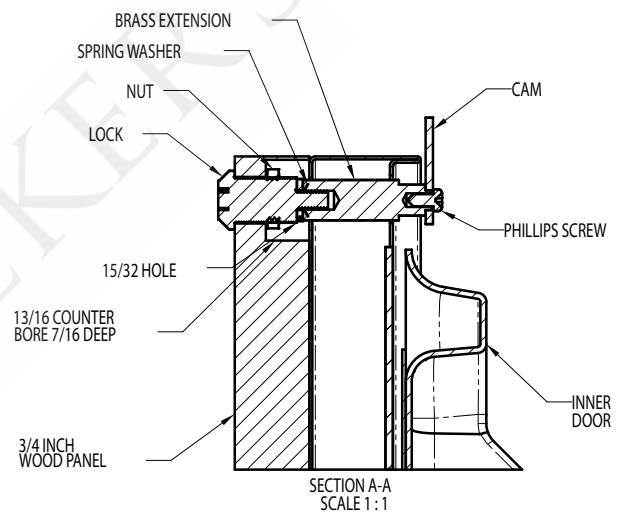

Figure 9
Remove the hinge adapter bushings from the top and bottom door hinge adapters. (See Figure 9). Using the holes in the hinge adapters drill 5/16" (8mm) diameter clearance holes into the overlay panels 3/4" (20mm) deep. These will be clearance holes for the top and bottom hinge pins.
Locate and mark with a pencil the location of the lock hole on the overlay panel, this is the hole in the top corner of the handle side of the door. Remove the clamp and remove the overlay panel from the door. On the backside of the panel where you marked the lock location drill a 13/16" (20.5mm) diameter counterbore 7/16" (11.0mm) deep into the overlay panel. Drill a 15/32" (12.0mm) diameter hole through the overlay panel centered on the counterbore being careful not to splinter the wood on the face side of the panel. (See Figure 9).
Two (2) lock extensions are supplied with the lock. Use the longer extension for a 3/4" thick overlay panel and the shorter one for a 5/8" thick panel. Assemble the lock extension, cam stop washer, spring washer, and set screw to the lock as shown in Figure 9 and 10.